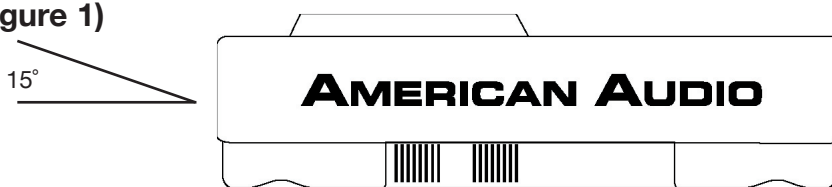

Figure 1
- The player will work normally when the main unit is mounted with the front panel within 15 degrees of the vertical plane. If the unit is tilted excessively, discs may not be loaded or unloaded properly. **(Figure 1)**